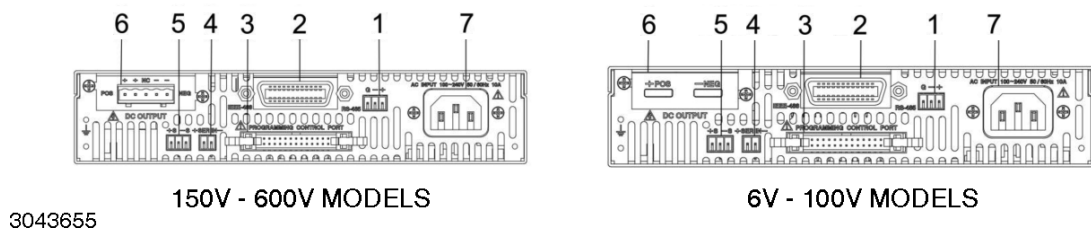

FIGURE 2-1. KLN 750W SERIES REAR PANEL
b) Rear Panel: Refer to Figure 2-1 (750W), 2-2 (1500W) or 2-3 (3000W) and Table 2-1.
| NUMBER (FIGURE 2-1, 2-2 or 2-3) | CONNECTOR/TERMINAL | FUNCTION |
Refer to Figure 2-1, 2-2 or 2-3 and Figure 3-1, 3-2, or 3-3 for location of operating controls and electrical connections. Tables 3-1 and 3-2 explain the functions of operating controls/indicators and keypad keys, respectively. Refer to PAR. 3.2 for a description of basic operating techniques.